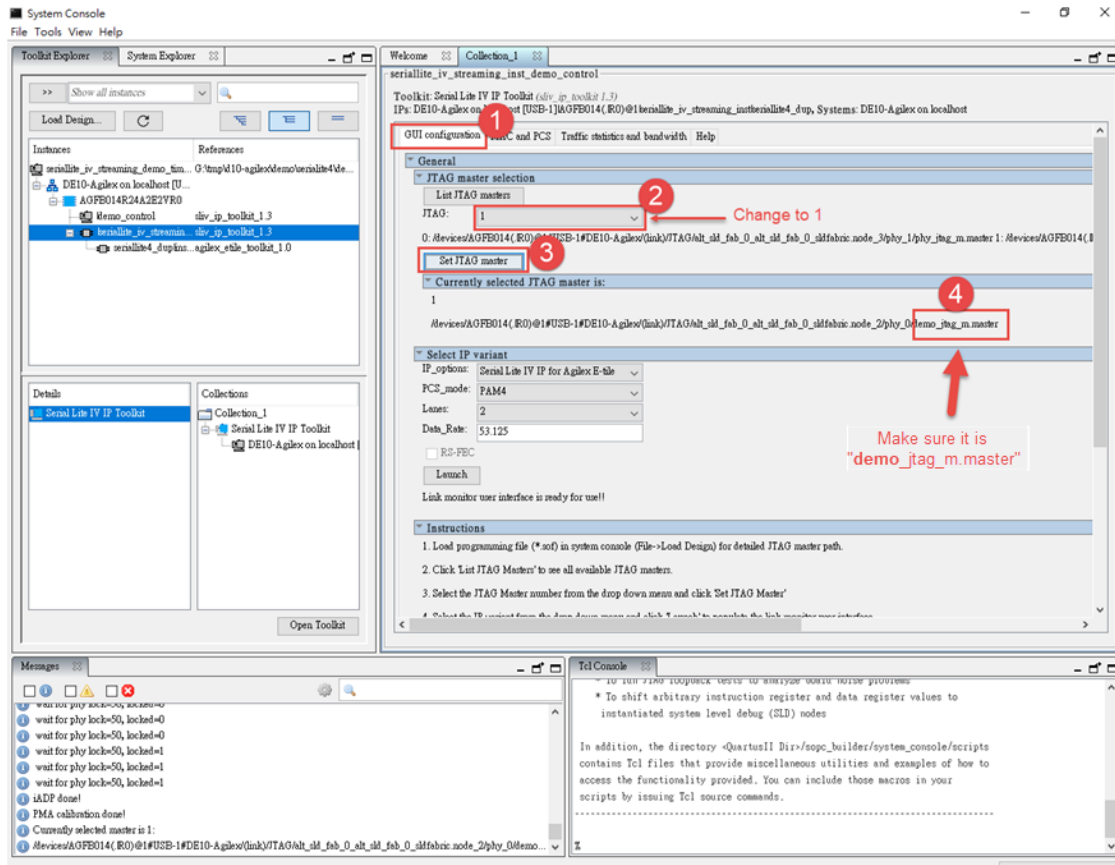

Figure 9-23 Setup Demo JTAG Master
8. Please refer to the **Figure 9-23**, choose **GUI Configuration** tab and follow steps 1~4 to set JTAG master for demonstration.